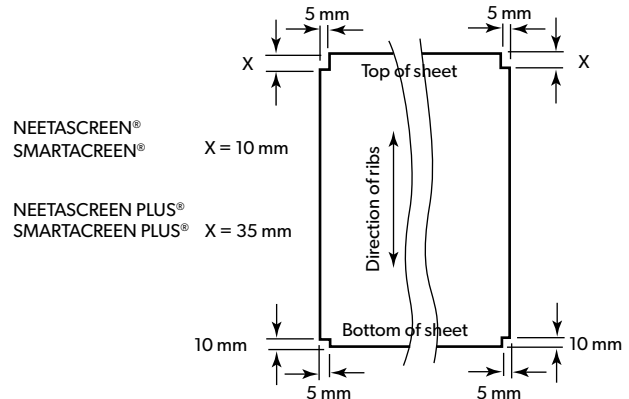

FIGURE 20.4:
4. If required, fit edge cover strip to one side of the infill sheet for SMARTASCREEN® gates (Figure 20.4).